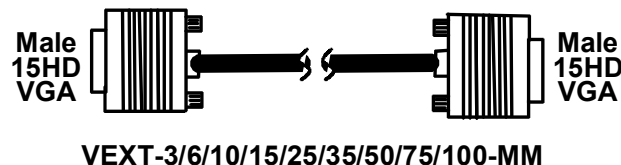

Fig. 4
6. Using VEXT-xx-MM (Fig. 4, required, not supplied), connect the video port of a PS/2 CPU to "PC 1 VIDEO" port on the rear of the switch.